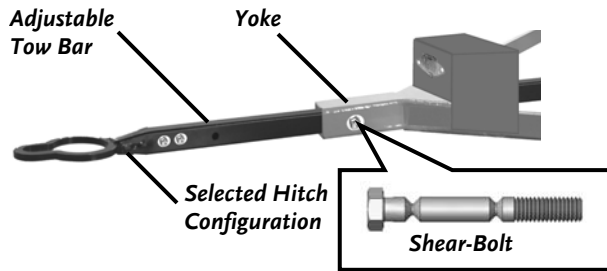

Figure 13
1. Select the appropriate hitch configuration and using two (2) 1/2" Wrenches, attach the hitch to the Adjustable Tow Bar with two (2) 5/16"-18 x 2-1/2" Bolts, 5/16" Flat Washers, and 5/16"-18 Lock Nuts (**Figure 13**).
- **USE ONLY THE SHEAR-BOLT PROVIDED; USE OF ANY OTHER BOLT MAY CAUSE DAMAGE TO YOUR DR POWER GRADER. SEE FIGURE 13.**
- **THERE ARE TWO (2) EXTRA SHEAR-BOLTS PROVIDED. STORE THEM WITH YOUR OPERATORS MANUAL OR IN A SAFE LOCATION. KEEP ONE WITH YOU WHEN GRADING.**
2. Insert the Adjustable Tow Bar into the front of the Yoke and align the holes between the Yoke and Tow Bar to suit the correct towing distance from your vehicle (**Figure 13**). Using two (2) 9/16" Wrenches, bolt the Tow Bar in place using the 3/8"-16 Shear-Bolt and 3/8" Locknut supplied.